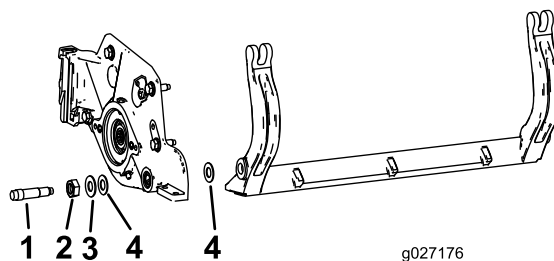

Figure 26
4. Remove each bedbar bolt allowing bedbar to be pulled downward and removed from machine bolt (Figure 26).
Note: Account for the 2 nylon and 1 stamped steel washers on each end of bedbar (Figure 26).
Note: Position a nylon washer on each side of the side plate boss. Place a steel washer outside each of the nylon washers (Figure 26).